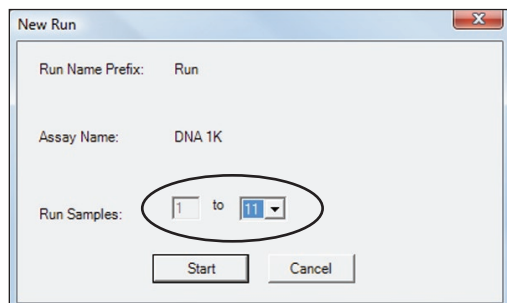

Fig. 3.5. New Run dialog. The Experion system stops analysis when it reaches the number of samples entered.
- In the **New Run** dialog (Figure 3.5), select the number of samples to be analyzed. Though all wells are filled, the Experion system stops the analysis when it reaches the number of samples entered.